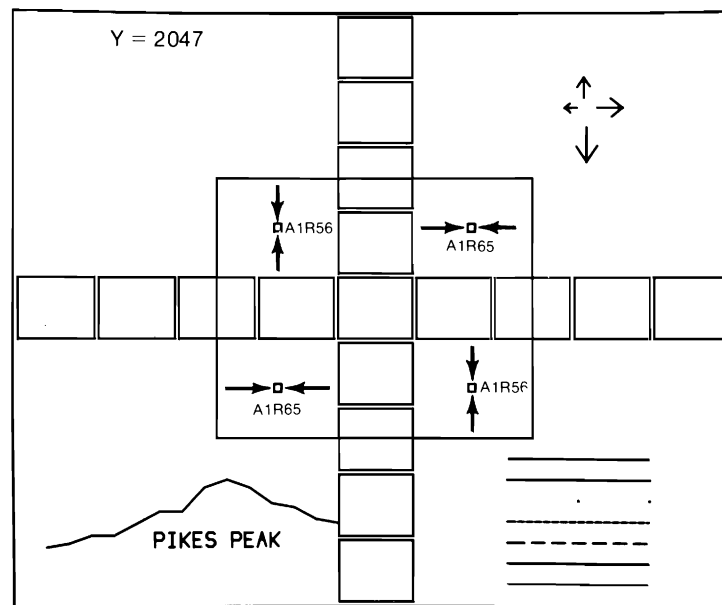

Figure 5-9. Stroke Intensity Adjustment
- b. Adjust A1R56 so that the horizontal lines of the four small boxes in the test pattern are of equal intensity (see figure 5-9).